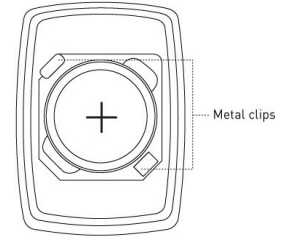

Figure 5
3. Insert the replacement battery with the + sign facing out (see *Figure 5*). If the circuit board is removed, ensure the LED is aligned with its hole.
WARNING! The polarity of the battery must be observed, as shown (see *Figure 5*). Improper handling of lithium batteries may result in heat generation, explosion or fire, which may lead to personal injuries. Replace only with the same or equivalent type of battery as recommended by the manufacturer. (see *Specifications*)
2. Place a small flathead screwdriver in the slot between the metal clip (see *Figure 5*) and the battery and twist the screwdriver slightly while holding back one of the black plastic edges holding the battery.